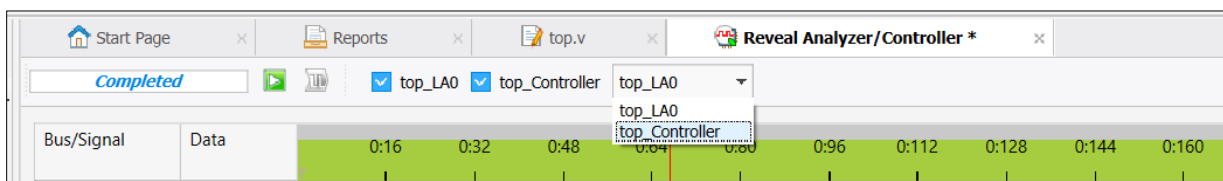

Figure 7.4. Select top\_Controller
2. Reboot the device with Alternate Pattern 1: Launch the Reveal Controller by selecting the top\_Controller from the drop-down menu (Figure 7.4).